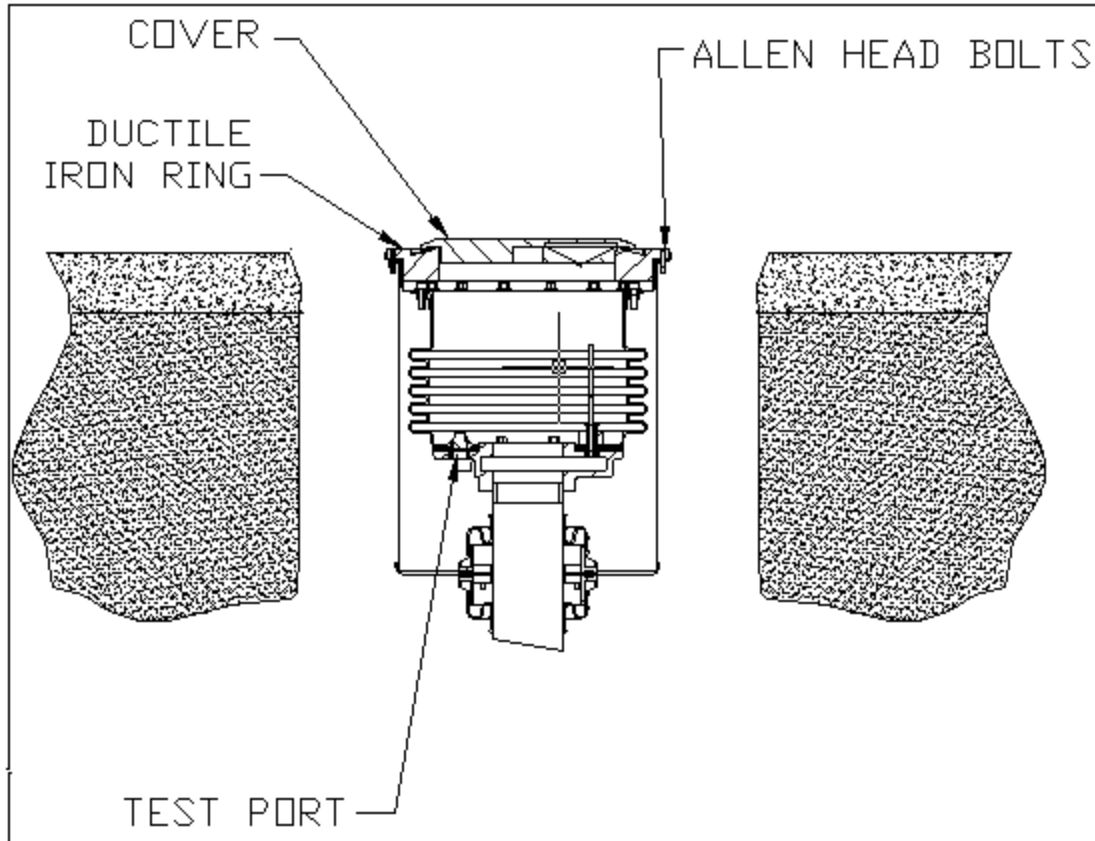

Figure 6
9. Place a vacuum unit into the test port. Pull 5 psi for 10 minutes to check the primary and secondary containment from leaks into the environment.(See Figure 6) Then place cover on top of the unit after the test.